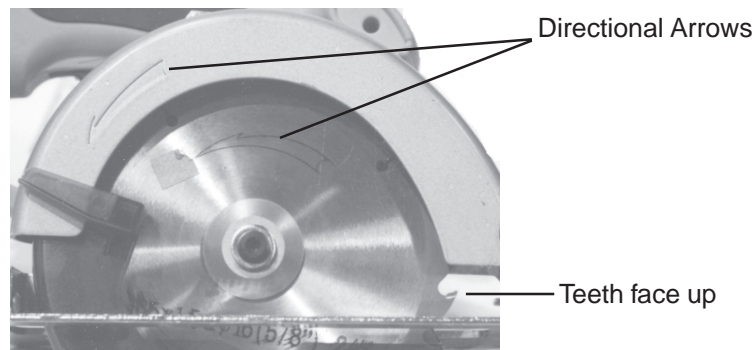

Figure 3
Step 5) Insert the Saw Blade (#35) up through the Shoe (part #53) with the teeth facing forward and up, until the center hole of the Saw Blade fits over the Main Shaft (part #25) - (See Figure 3).
Warning: Make certain that the arrow on the Retractable Guard (#32) and the Saw Blade are facing the same direction as in Figure 3.